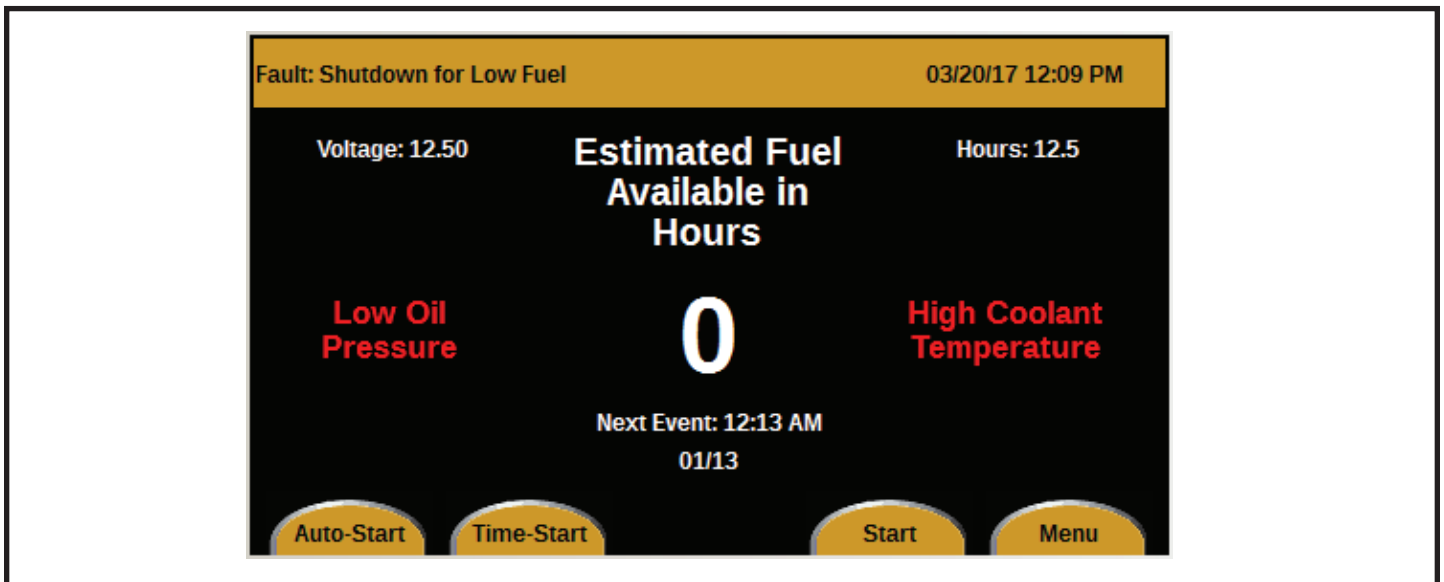

Figure 3
2. Press the DOWN arrow three times to highlight Fuel Hours. Press the Enter button. The Fuel Hours screen will appear (see *Figure 3*).